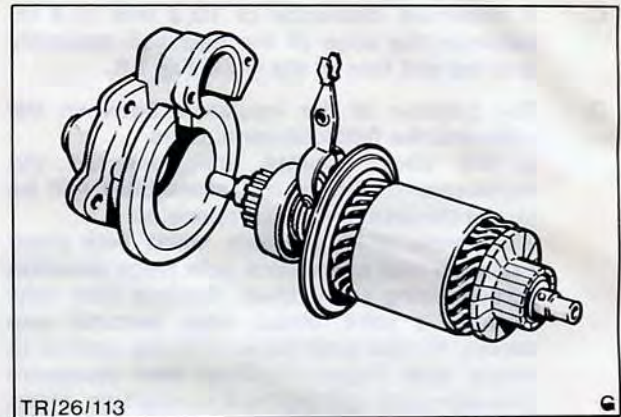

Fig. 69. Starter motor assembly
12. The assembly comprising drive end cover, drive engagement lever, armature complete with roller drive clutch and pinion and intermediate bracket can now be dismantled, Fig. 69.